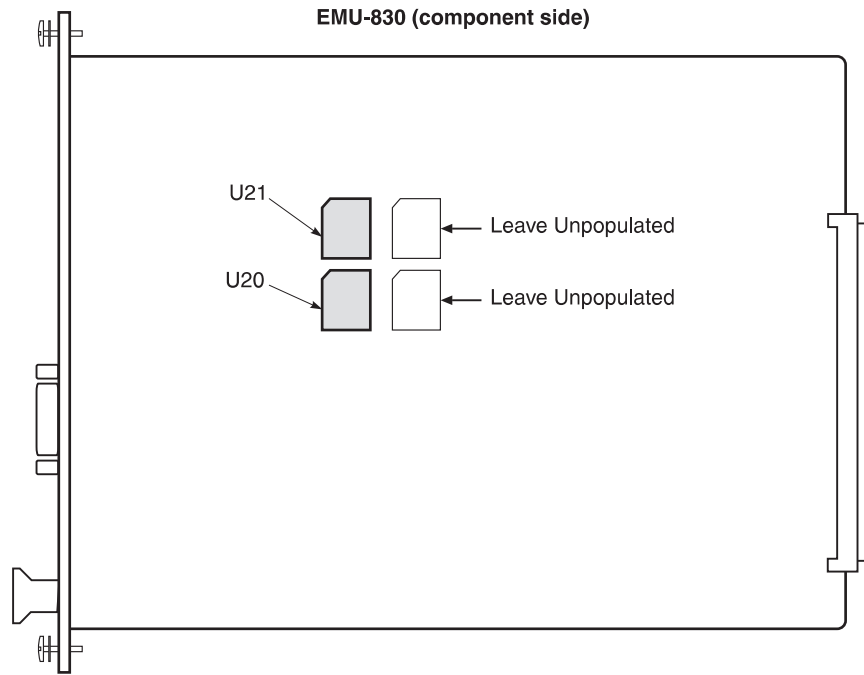

Figure 1. EMU-830 PROM Locations U20, U21
The firmware for the EMU-830 unit is contained in two (2) replaceable PROM devices. These devices may be factory upgraded and replaced in the field to support new features or implement bug fixes. The two PROM devices reside on the EMU-830 card at the locations shown in Figure 1.
- 2 Locate PROM U21 on the EMU circuit board (see Figure 1).
- 8 Locate PROM U20 on the EMU circuit board (see Figure 1).